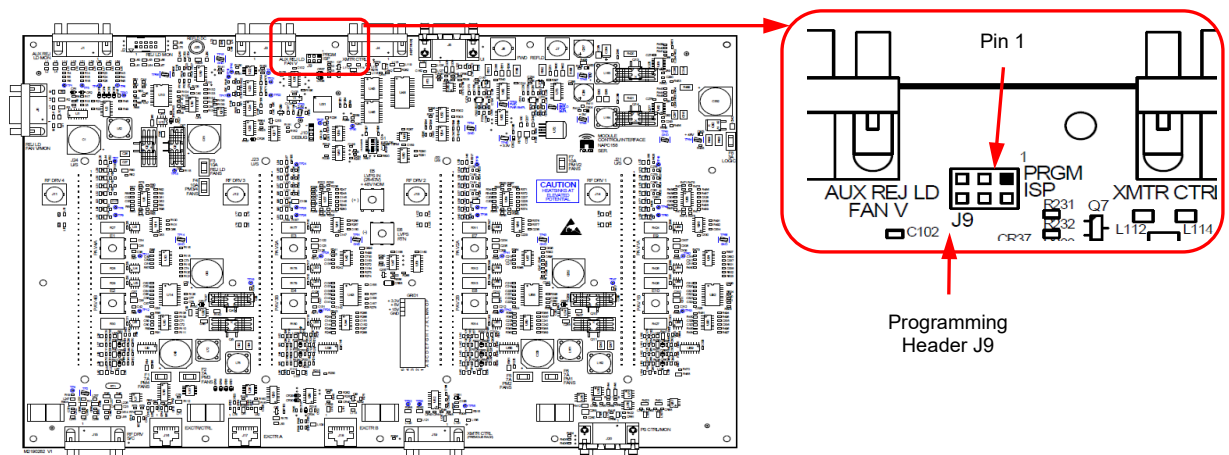

Figure 1: Location of Programming Header J9 on Module Control/Interface PWB
- (d) Connect the 6-pin programming cable that comes with the dongle between the dongle and the programming header J9 on the module control/interface PWB (see Figure 1). Ensure proper orientation, pin 1 is slightly highlighted with a white background on the board silkscreen